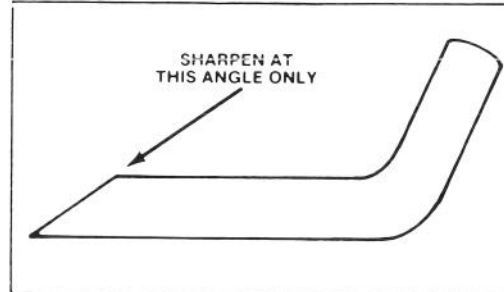

Figure 24
6. SHARPENING BLADE — Using a file, sharpen top side of blade and maintain original cutting angle (Fig. 24). The blade will remain balanced if same amount of material is removed from both cutting edges.